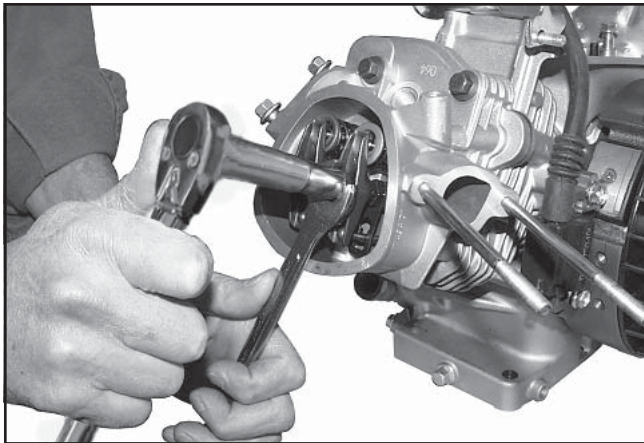

Figure 11-51. Lock Valve Tappet Adjustment.
- d. Hold the adjuster from turning and tighten the locknut. Torque locknut to **10 N·m (89 in. lb.)**. See Figure 11-51.